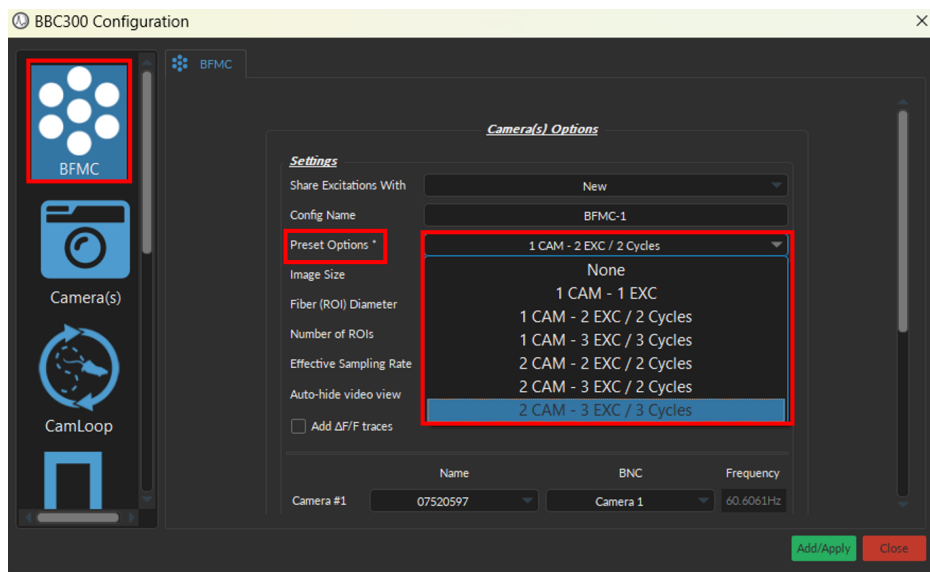

Figure 1.5: Add Channel
4. From the list on the left, select **BFMC** option, which is the photometry setting (Fig. 1.5).
5. Here you need to choose the **Preset Options** (Fig. 1.5). This drop-down box provides several options that automatically configure the camera and LED excitation timing to fit the application (1-color or 2-color). If you are using a BFTO or RBFMC bundle system, only the 1 CAM (camera) options will be available. If you are using the BFMC-G3, which has two cameras, the 2 CAM options will also become available.